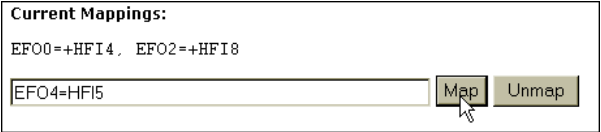

FIG. 281: CURRENT MAPPINGS/GROSS WEIGHT/CHANNEL 2 (HF18) ASSIGNED TO HARDY CONTROL-LINK FLOAT OUT/WORD 4 (EFO4)
Step 29. Click on the Map button to map the assignment statement. (See Fig. 281)